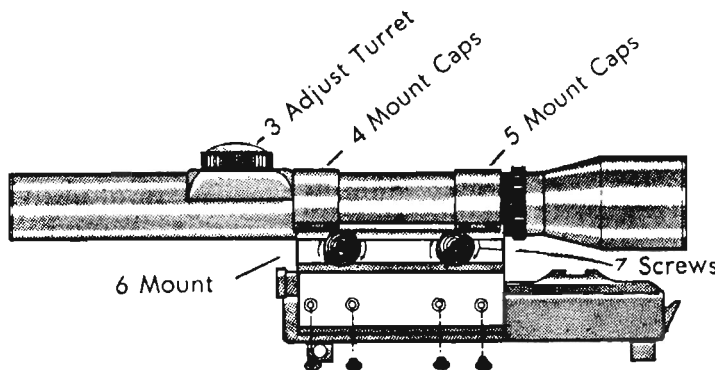

Figure 4
The scope turret (3) must be forward of the mount (4). Slip the mount caps (5) over the tube, don't remove the scope turret or eyepiece. (as in figure 4).